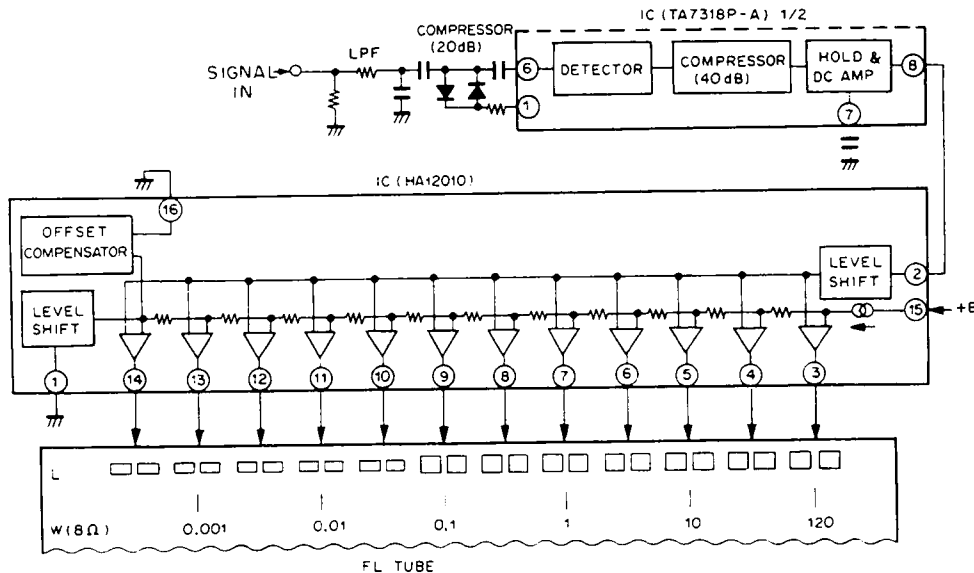

Fig. 4-23 Power Indicator Circuit
An outline of the output power indicator drive circuit is shown in Fig. 4-23. The output circuit signal is first passed through a low-pass filter and a compressor circuit before being applied to pin no.6 (4) of the IC (TA7318P-A). The compressor circuit makes use of the non-linearity of rising portion of the diode's Vd-Id characteristics to contract the signal dynamic range by 20dB. The IC contains a detector circuit, compressor (40dB), and peak hold circuit for both left and right channels. The dynamic range of the signal is thus contracted by 60dB to obtain a "peak held" DC voltage.